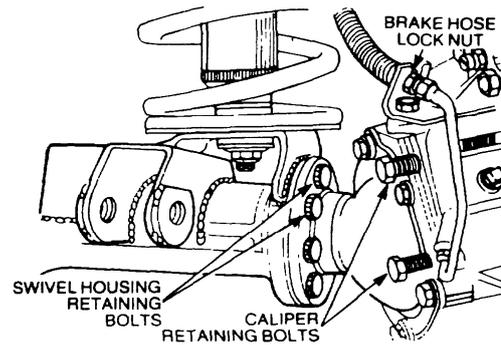

Figure 107 Brake Caliper Removal
- f.** Loosen the nut securing the brake hose to the retaining bracket (Figure 107).